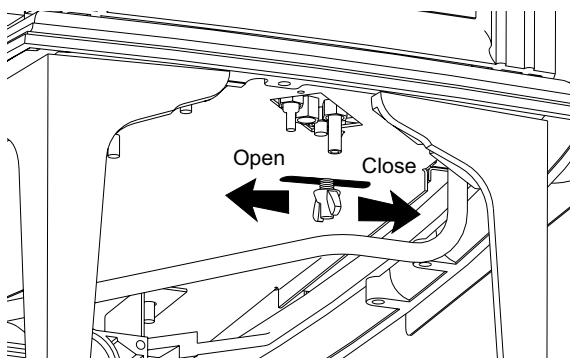

Figure 30.
1. Reach under the right side of the stove and loosen the wingnut located closest to you. See fig. 30. Slide the wingnut stud forward to open the air shutter and back to provide less air. Make adjustments in small increments.